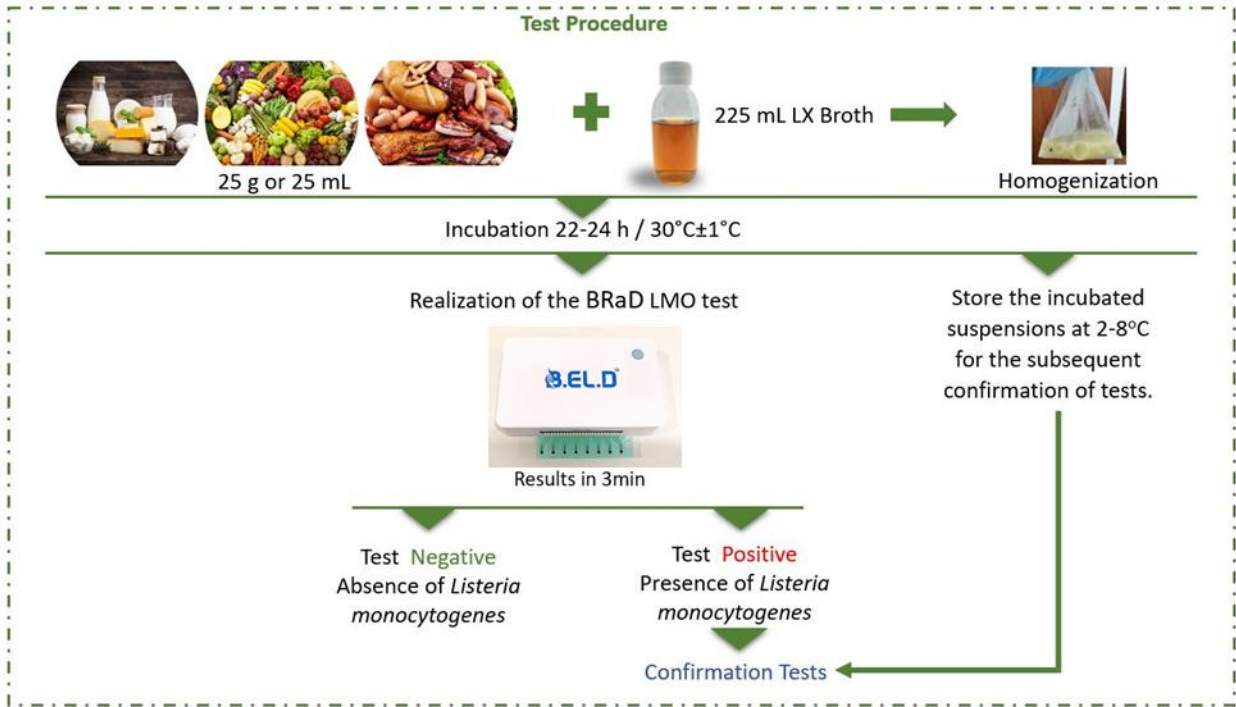

FIGURE 1 TEST PROCEDURE
3. Incubate the suspensions at 30°C for 22-24h (**Figure 1**).